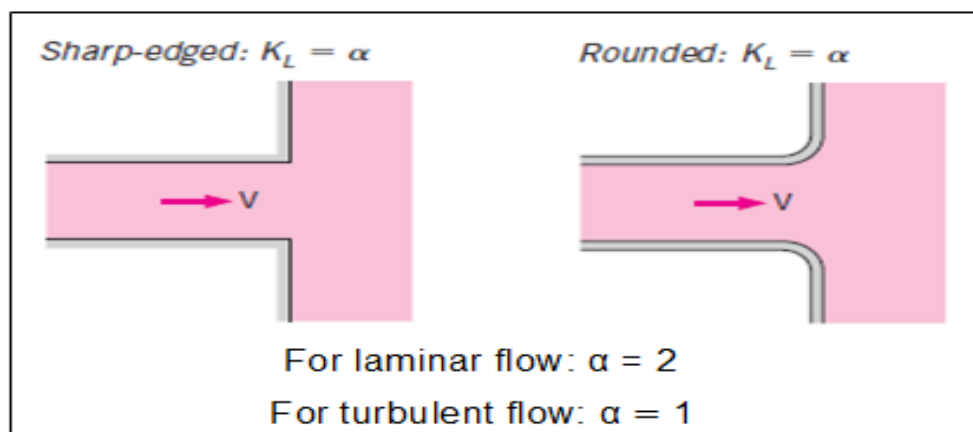

Figure 10. K_L for a Pipe Outlet
- The loss coefficient for a pipe outlet is shown in Figure 10.